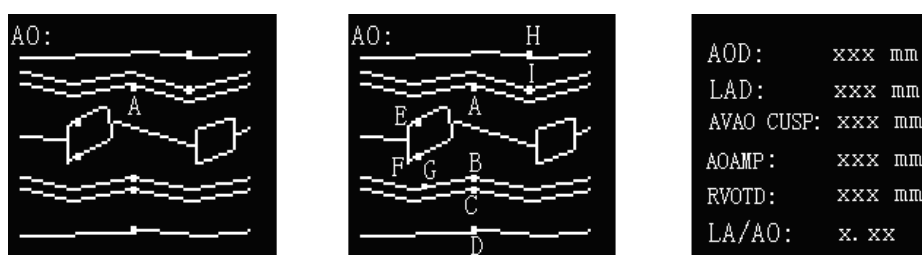

Fig. 8-4 Initial, Final and Result Pages of AO Measurement
- a) In B mode unfrozen state: acquire the max. longitudinal diameter plane (plane R in Fig. 8-4) and the max. transversal diameter plane (plane L in Fig. 8-4) of the measured object, then freeze the image. Use cineloop to find plane R. Press **Meas** and select **Biplane-vol.** to enter the measurement screen of biplane
- b) In 2B mode unfrozen state: In 2B mode unfreeze state, acquire the max. longitudinal diameter plane of the measured object in one of the images (plane R in Fig. 8-4) ; Turn **Disp** knob to activate the other image window, then acquire the max. transversal diameter plane (plane L in Fig. 8-4), and then press **Freeze** key to freeze that image. Press **Meas** key and select **Biplane-vol.** to enter the measurement screen of biplane volume. A + cursor shows up in the image area. "**1Volume: 0.00cm3, 1D1: 0.00cm, 1D2: 0.00cm, 1D3: 0.00cm**" is displayed in the result area in four lines. Use the trackball to place the + cursor over the long axis start point of the max. longitudinal diameter image (plane R). Follow Ellipse-area to obtain the values of D1 and D2, namely the longitudinal diameter and the antero-posterior diameter of the object. Press **Enter** to confirm Ellipse-area measurement and activate a new + cursor. Then follow the distance measurement to obtain the value of D3 on plane L. Now the volume value is displayed in the result area automatically.